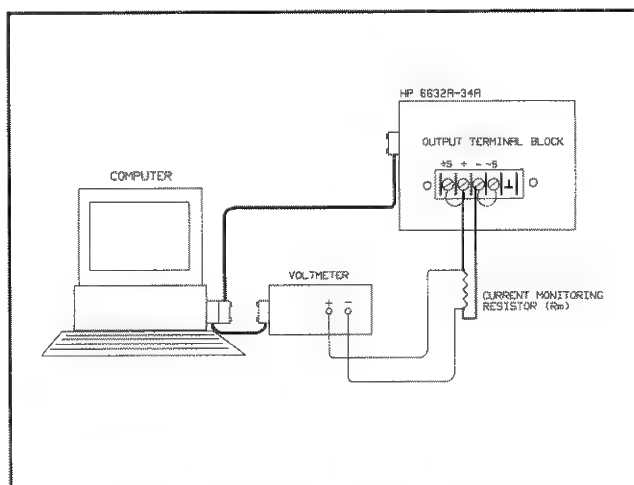

Figure A-2. Setup for Current Calibration
15. Enable calibration mode by sending the CMODE 1 command. Disable the output using either the OUT 0 command or the front panel key. Connect the shunt resistor to the output terminals and the voltmeter to the resistor's sense terminals as shown in Figure A-2.